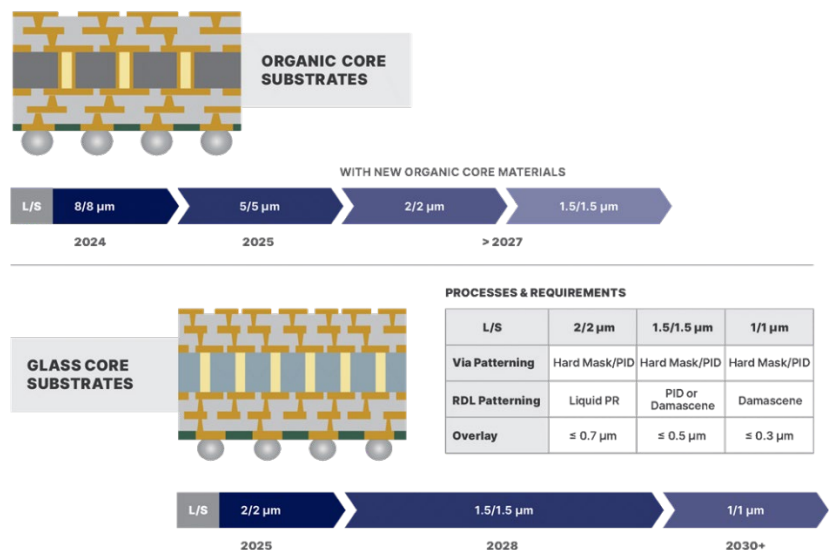

Figure 1: The industry roadmap for the transition of substrates from organic (top) to glass (bottom) and the path to 1µm L/S. Source: Onto Innovation.
Advanced IC substrates (AICS) have been marching toward the 2µm line/space (L/S) redistribution layer (RDL) technology node for some time (Figure 1). However, many questions remain about the ability of organic substrates to meet the line/space requirements of the next generation of advanced packages (AP), those below 2µm L/S and perhaps to 1.5µm L/S. Simply put: are organic substrates up to the challenge?